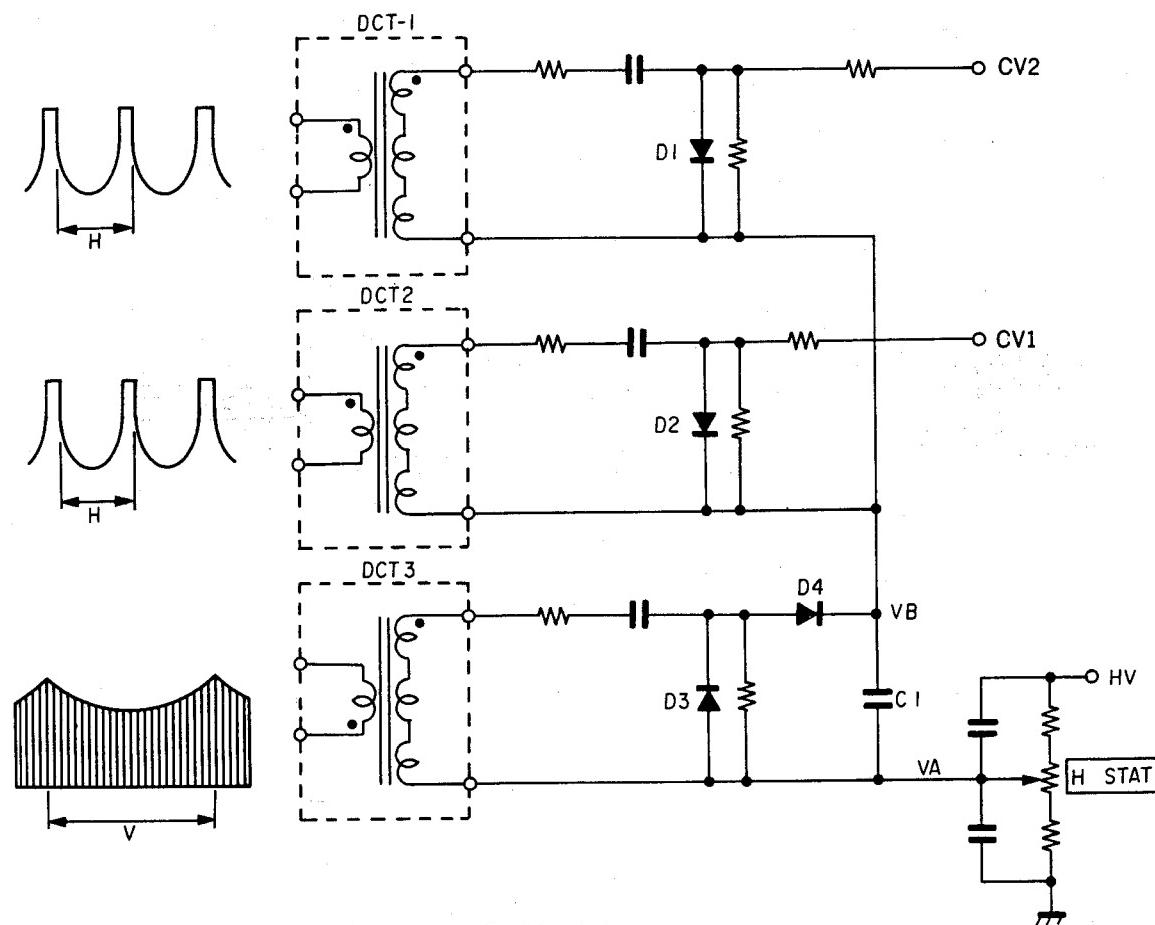

Fig. 24. DCT Block
The principles of DCT block operation are shown in Fig. 24. The DCT block contains detection resistors for HV regulator feedback, high voltage resistors for obtaining H.STAT voltage, DCT1, 2, and 3 for convergence correction, a clamping circuit, and a detection circuit.
The H.STAT voltage (VA) is overlapped with the correction voltages obtained from DCT1, DCT2, and DCT3, and supplied to the convergence plates (CVP-1 and CVP-2). Correction of both static and dynamic misconvergence in the horizontal direction is possible even if it is asymmetrical. The pulse modulated by the parabolic voltage of the vertical period, shown in Fig. 24., is input to DCT3. As the CV voltage is extremely high, approximately 97% of HV, it is difficult to transmit the correction wave of the vertical period. The horizontal wave is clamped to the vertical period envelope at "VB" and the resulting waveform is shown in Fig. 25.
As shown in Fig. 24, the horizontal period correction wave with the clamp pulse inserted, is applied to DCT1 and DCT2. It is clamped by diodes D1 and D2 after being amplified approximately 100%, and is overlapped on the VB voltage. CV1 and CV2 are supplied to convergence plates CVP-1 and CVP-2 respectively. CVP-1 is a convergence electrode for correction of blue misconvergence, and CVP-2 is a convergence electrode for correction of red misconvergence. Thus, red and blue horizontal misconvergence can be corrected separately. The correction of blue misconvergence on the Y-axis is possible by changing the clamp pulse height, of the correction wave input to DCT1.